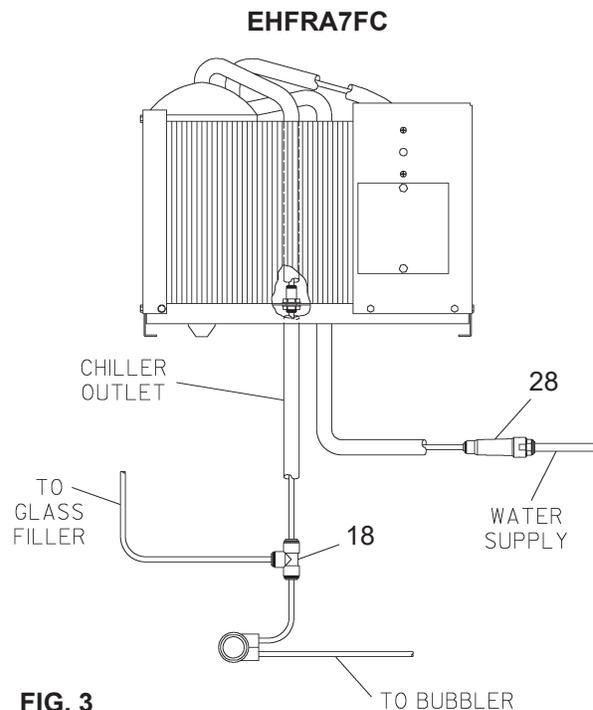

FIG. 3
**** For glass filler models see fig. 3.**